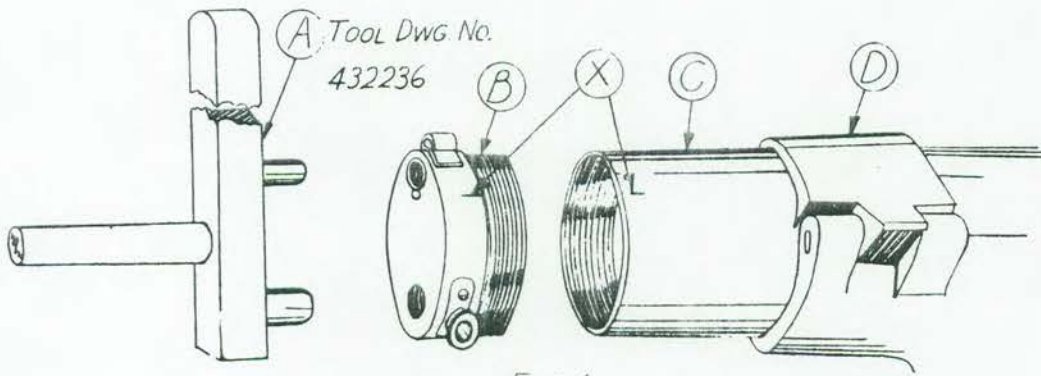

FIG. 1
- (26) TAKE A SHARP CHISEL AND CUT AN ALIGNMENT LINE (X) ACROSS CAP (B) AND JACKET (C). NOW PUT JACKET (C) IN VISE SO THE CAP END IS HEATED BY THE BURNERS IN FIG. 1, SHEET 14. REMOVE CAP WITH TOOL (A). NOW CLEAN AND STRAIGHTEN JACKET AS IN OPERATION (25). RECOAT THREADS IN JACKET (C) AND CAP (B) WITH SOLDER AND SCREW THE CAP IN. TIGHTEN UP TO ALIGNMENT MARKS (X).